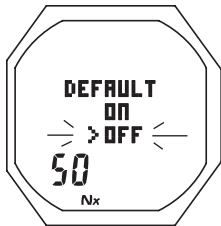

Fig. 39 - SET FO2 DEFAULT
**Set FO2 Default**, information includes (Fig. 39):